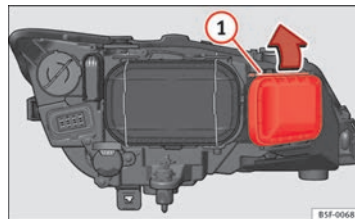

Fig. 138 Main beam bulb
- Move the loop ⇒ Fig. 138 ① in the direction of the arrow and remove the cover.